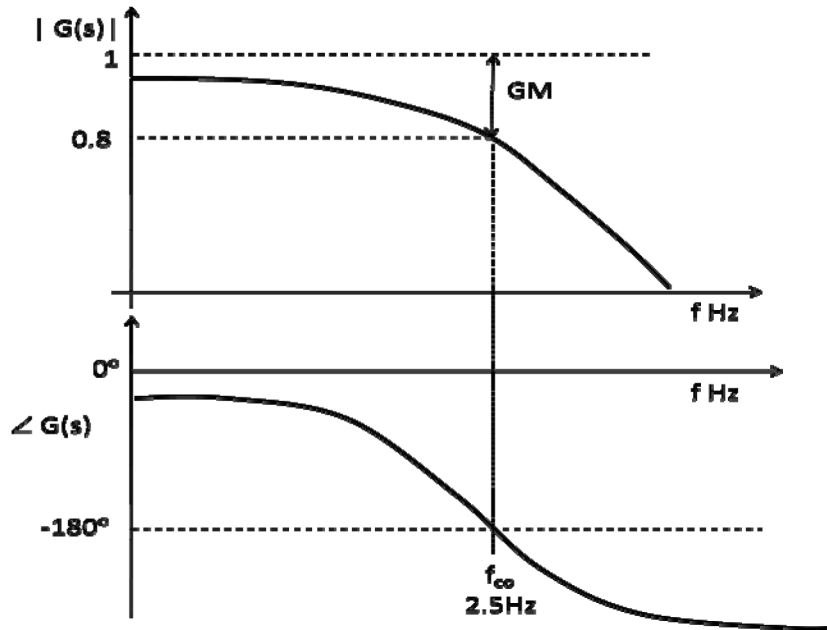

Figure 6a
- b) A plant step response is shown in Figure 6a, where GM_{co} and f_{co} are gain margin and phase crossover frequency.